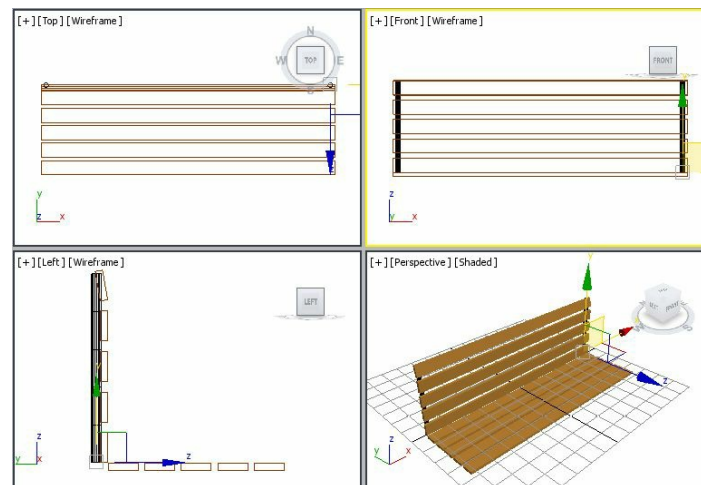

Figure 2-73 The vertical back support002 in viewports
6. Activate the Front viewport by middle-clicking in it. Choose the **Select and Move** tool and move the cursor over the horizontal axis. Press and hold the SHIFT key and the left mouse button, and then drag *vertical back support001* to the right side to align it with the right side of *horizontal back support*, as shown in Figure 2-73. Release the left mouse button and the SHIFT key; the **Clone Options** dialog box is displayed.
7. In the **Clone Options** dialog box, make sure the **Copy** radio button is selected. Set the value **1** in the **Number of Copies** spinner and choose the **OK** button; *vertical back support002* is created with the same dimensions as *vertical back support001*, refer to Figure 2-73.